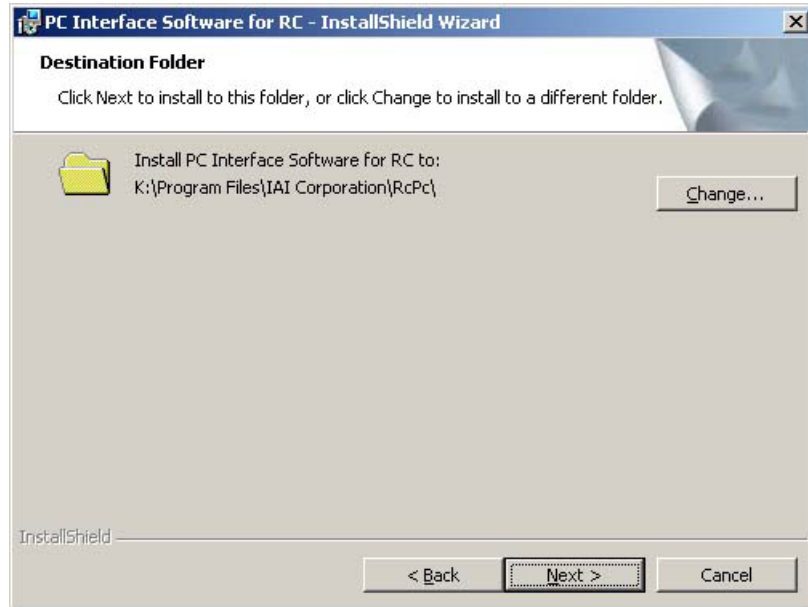

Fig. 1.5 Specification of Destination Folder
- [6] Specify a destination folder to install the PC interface software for RC. (Fig. 1.5)